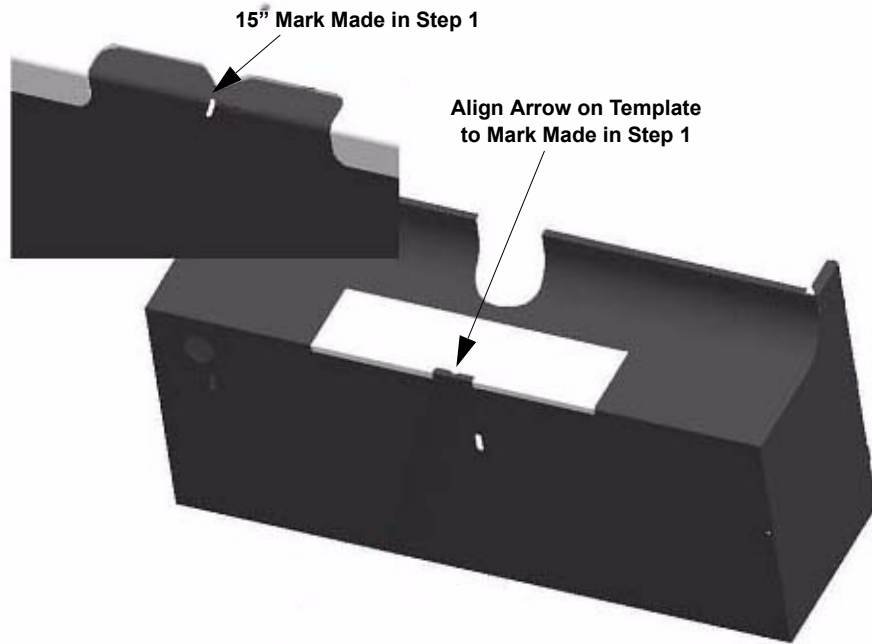

Figure 2.
1. Using the template supplied in the kit, align the template as shown making sure that the center arrow on the template is aligned with the center mark made in Step 1, see Figure 2..